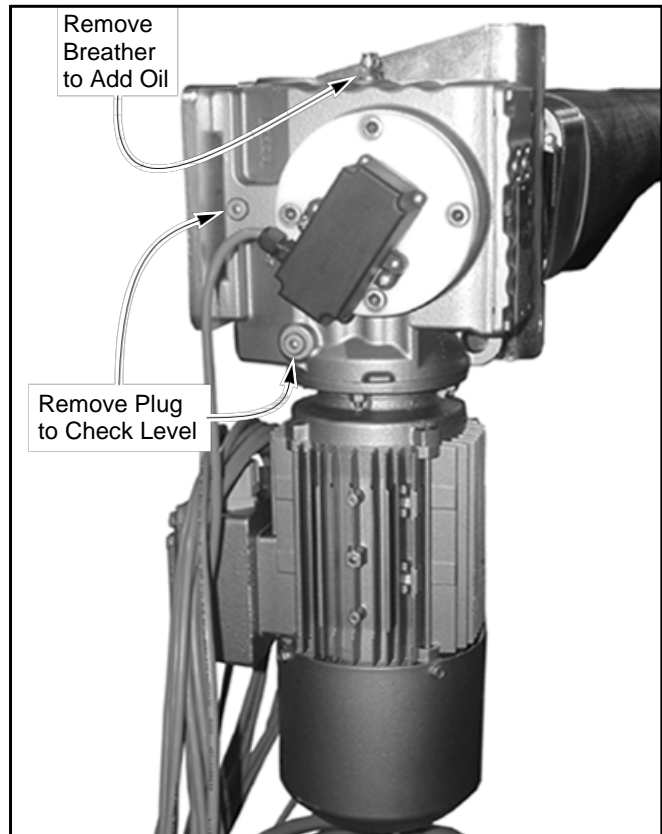

Figure 26
4. **Drive Motor Gearbox Assembly:** The oil level in the gearbox should be checked regularly. The oil level is checked at the plug located on the gearbox. (See Figure 26.)